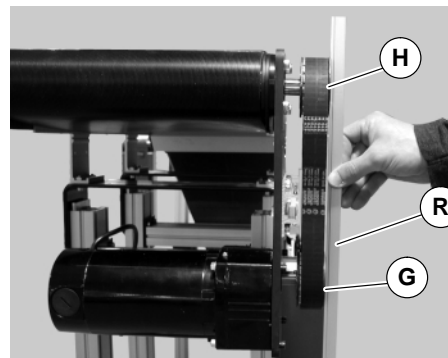
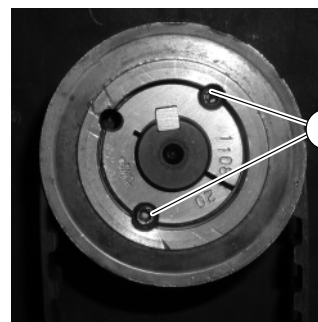

Figure 6
Figure 7
5. Wrap timing belt (F) around driven pulley (H) and drive pulley (G). Install driven pulley (H) onto conveyor shaft.
6. Using a straight edge (R of Figure 6), align driven pulley (H) with drive pulley (G). Tighten driven pulley taper-lock screws (S of Figure 7).
**NOTE:** If timing belt does not slide over pulley flange, loosen driven pulley taper-lock screws (S of Figure 7 & 11) and remove pulley with belt (F). For re-installation, see steps 5 and 6 on page 6.